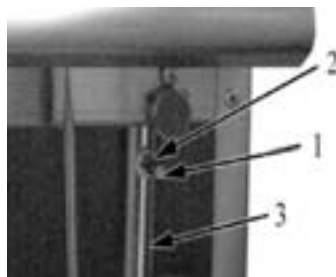

Fig. 3
- Unscrew the screw (pos. 1 in Fig. 3) on the pressure port (pos. 2);
- Replace the screw (pos. 1 in Fig. 3) and check there are no leaks.